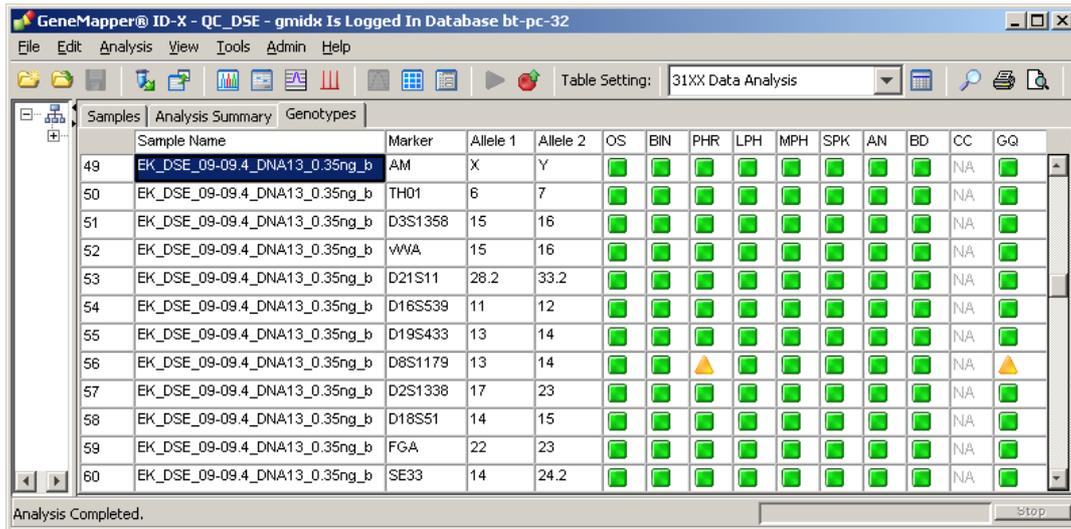

Figure 13. Example output file after 31XX Data Analysis.
- Generates a table where the analysis of each marker (STR locus) is displayed in one line (e.g., for Decaplex SE: All markers x 2 alleles) (Figure 13)